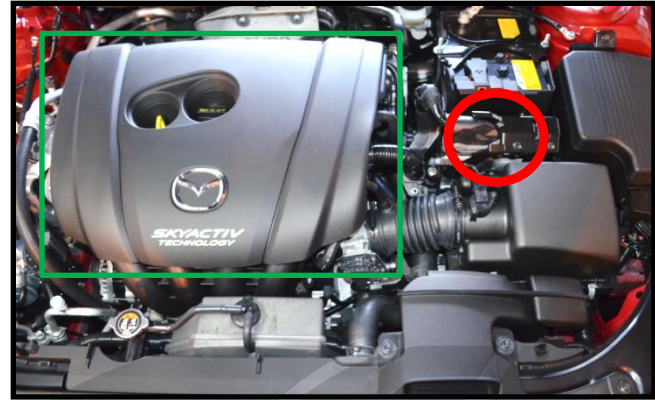

Figure 1a
- a) **Remove Engine Cover** by pulling up on it. There are no screws that hold it down. This will help when loosening the intake clamp (shown in green square Figure 1a).
- b) **Unplug MAF sensor** (shown in Figure 1a with a red circle and in Figure 1b close up). Press down on the latch and the sensor will unplug.